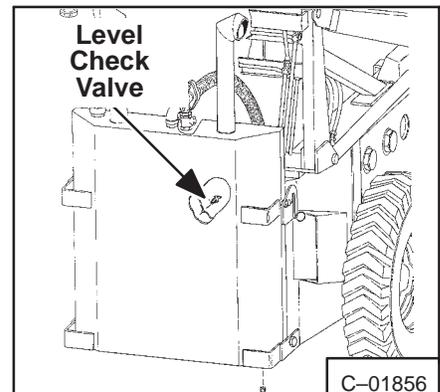

Fig. 1-25 Check Level Scrubber Muffler
3. Fill with clean water until water level reaches level check valve located on front of scrubber (Fig.1-25).